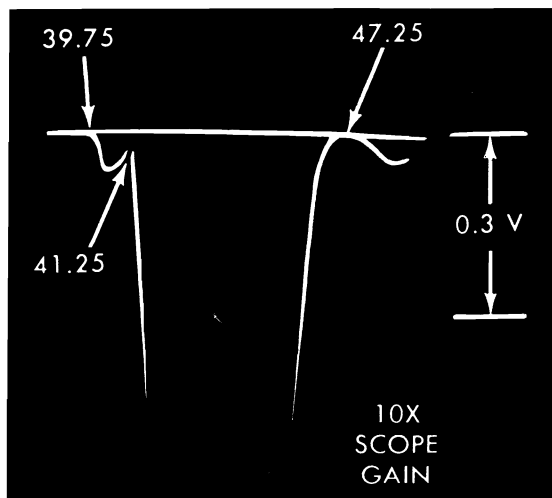
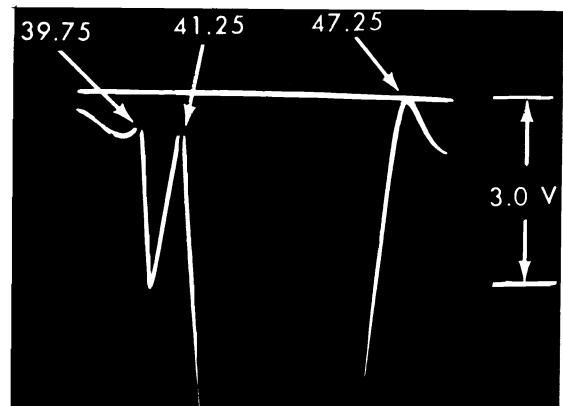
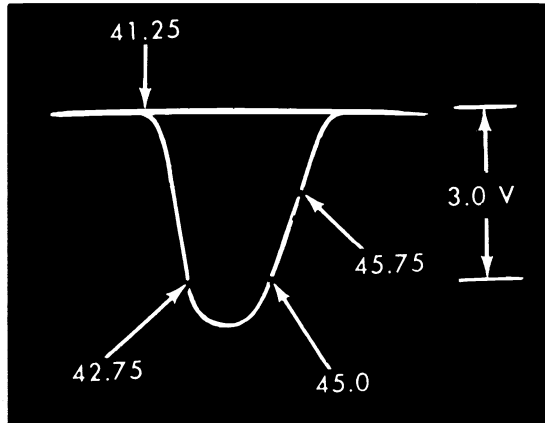
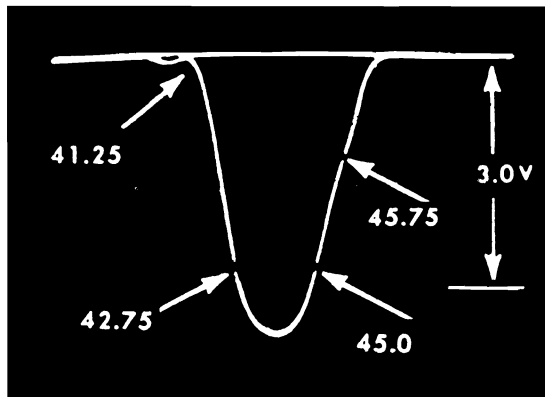

Fig. 6 Expanded View of Traps
Fig. 7 Further Expansion of Fig. 6 for Detail View of the 39.75 and 47.25 Mc Traps.
Fig. 8 Overall IF Response
Fig. 9 Overall IF Response
5. Connect the sweep generator to terminal "A" (converter grid). Connect terminal "F" to chassis and connect a jumper between terminal "E" and chassis. Adjust the sweep to obtain a 3V.P.P. response similar to Fig. 8. Switch oscilloscope to 10X gain to "blow up" the traps, (Fig. 6).
6. Refer to Fig. 6 and adjust the 39.75 Mc and the 41.25 Mc traps for minimum marker amplitude. Disconnect the jumper between "E" and chassis. Connect this jumper between "E" and the junction of the 22 (68 in the 14M28 chassis) and 1800 ohm resistors in the cathode of the first IF. This provides an additional "blow up" of the 47.25 Mc traps (Fig. 7). Adjust the 47.25 Mc traps (the 14M23, 14M28 and 16M24 chassis have one 47.25 Mc trap and the 15M22 has two) for minimum marker amplitude.
7. Disconnect the jumper between "E" and the 22 and 1800 ohm cathode resistors. Connect this jumper between "E" and chassis. Adjust sweep generator for 3 volts peak to peak output at the second detector. Alternately adjust the 2nd, 3rd, 1st IF and the converter plate coil until an overall response similar to Fig. 8 (Fig. 9 for the 14M28 chassis) is obtained. It will be found that the 2nd IF affects the low side (42.75 Mc) and the 3rd IF, the high side of the response.